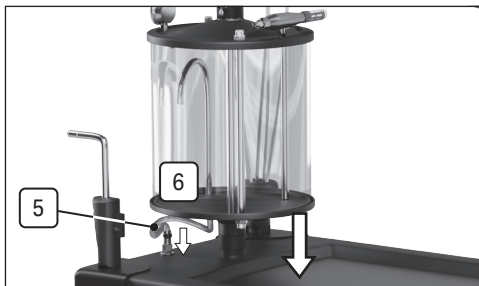

Fig.1
6.2 Fitting the Viewing Chamber (Fig.1)